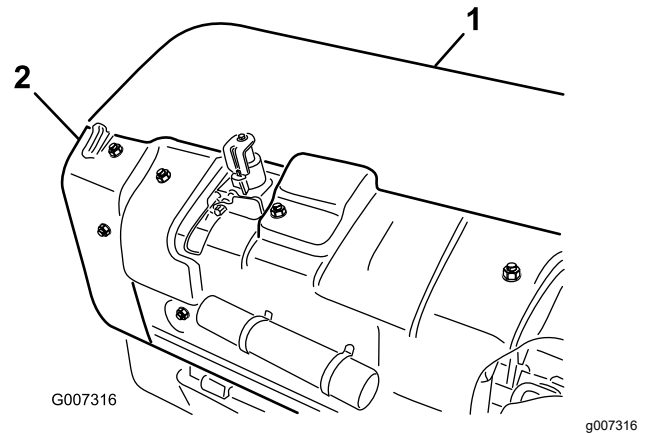

Figure 36
1. Remove the rear coring head cover (Figure 36).
2. Remove the pulley shield mounting bolts and remove the shield (Figure 36).